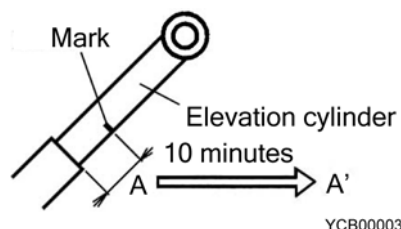

Fig. 3-16 Inspection procedures of natural descent
3. Apply the mark on the piston rod of the boom elevation cylinder, then measure the **Dimension A** as shown in Fig. 3-16.